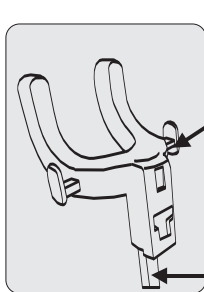

Figure 8
1. Insert the hanger(A) into the telescopic pole(B).(Figure 8 )